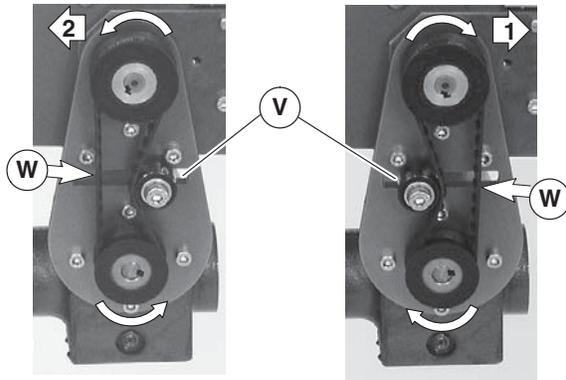

Figure 10
8. Depending on direction of conveyor belt travel (1 or 2 of Figure 10), position belt tensioner (V) as shown. Tension belt to obtain .125" (3 mm) deflection for 1.0 lb (456 grams) of force at belt mid-point (W). Tighten tensioner screw to 103 in-lb (12 Nm).
3. Depending direction of conveyor belt travel (1 or 2 of Figure 10), position belt tensioner (V) as shown. Tension belt to obtain .125" (3 mm) deflection for 1.0 lb (456 grams) of force at belt mid-point (W). Tighten tensioner screw to 103 in-lb (12 Nm).
5. Depending direction of conveyor belt travel (Figure 10, item 1 or 2), position belt tensioner (V) as shown. Tension belt to obtain .125" (3 mm) deflection for 1.0 lb (456 grams) of force at belt mid-point (W). Tighten tensioner screw to 103 in-lb (12 Nm).